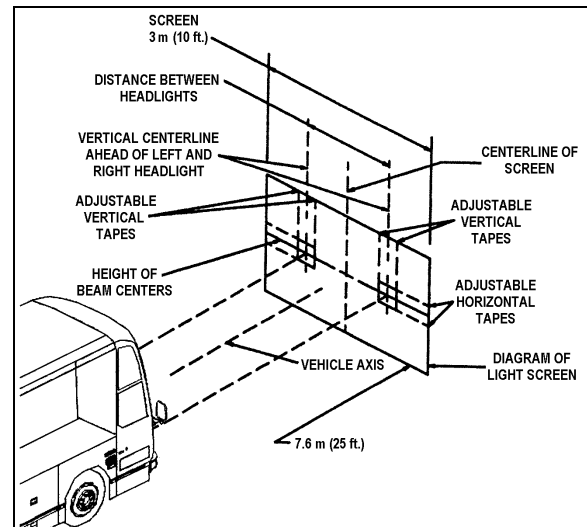

FIGURE 46: ALIGNMENT OF HEADLIGHT AIMING SCREEN
3. The headlight centerlines shall be spaced either side of the fixed centerline on the screen by $\frac{1}{2}$ the lateral distance between the light source centers of the pertinent headlights. The horizontal tapes should be located on the screen at the upper and lower limits called for in the specification with reference to the height of beam centers and the plane on which the vehicle rests, not the floor on which the screen rests (Figure 46).